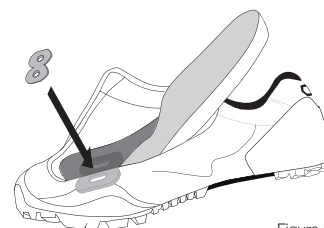

Figure 2
2. If necessary, remove the insole of the shoe and install the cleat washer from the inside of the shoe. (Fig. 2)